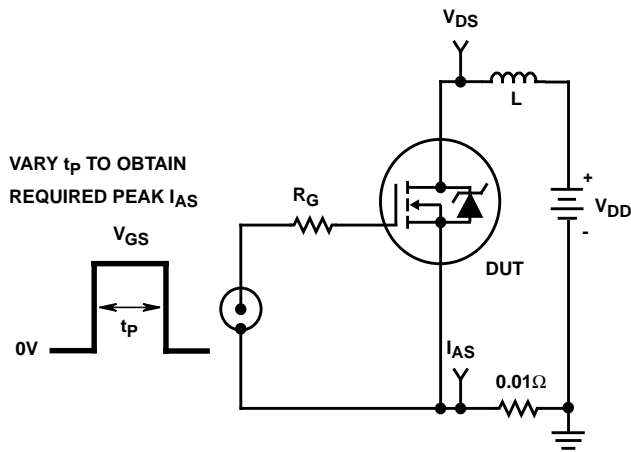

FIGURE 15. UNCLAMPED ENERGY TEST CIRCUIT
- $V_{DD} = 50\text{V}$, starting $T_J = 25^\circ\text{C}$, $L = 16\text{mH}$, $R_G = 25\Omega$, peak $I_{AS} = 6.8\text{A}$. (Figures 15, 16).